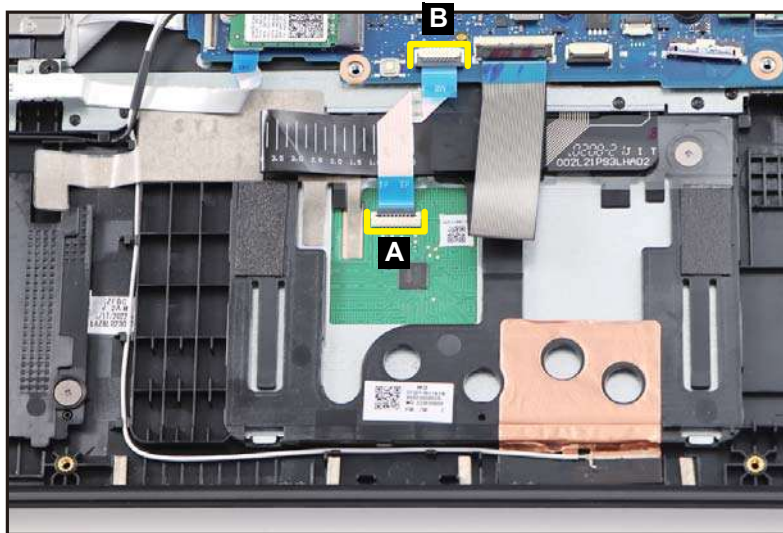

Figure 3-11. Touchpad Module Removal
1. Disconnect one end of the touchpad FFC from the touchpad module connector (A) (Figure 3-11).
2. Disconnect the other end of the touchpad FFC from the mainboard connector (B) (Figure 3-11).